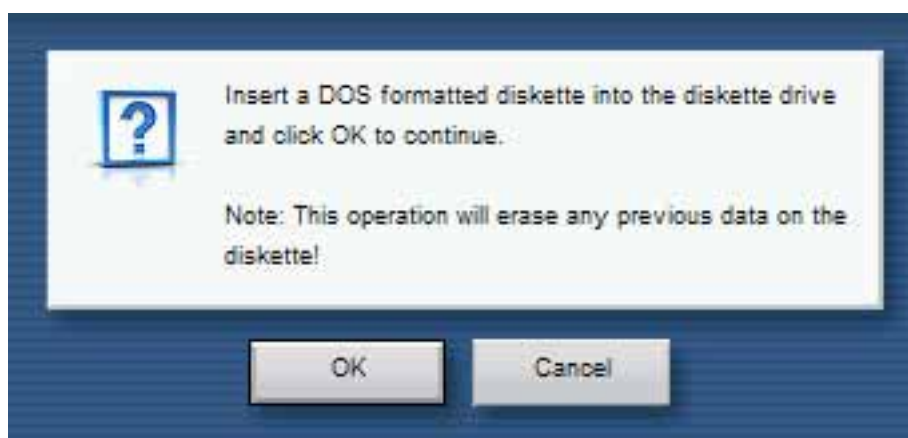

Figure 3-30. Call Home Queue Management – Offload Queue Entry to Diskette
9. Select **Offload Selected Entries to Diskette**. Figure 3-30 displays.